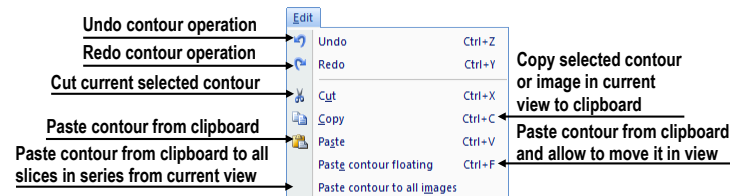

Figure 35 – Edit menu
- **Edit** – the clipboard operations with images in the current view and the selected ROI contour, see Figure 35.